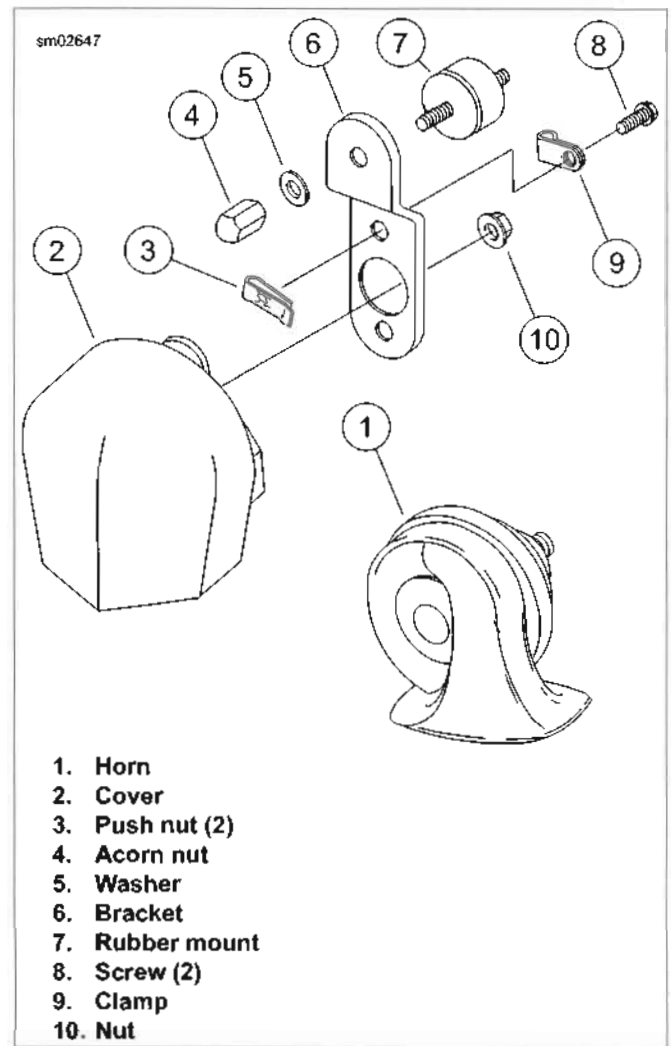

Figure 7-106. Horn: All But FXSB
1. See Figure 7-106. Remove acorn nut (4) and washer (5) to detach horn bracket (6) from vehicle.
3. Remove screws (8) and nut (10) to detach horn from bracket. Free wires from clamp (9).
- a. Secure with screws (8), and push nuts (3). Tighten screws to 35-55 **in-lbs** (4.0-6.2 Nm).
- b. Install nut (10) and tighten to 80-100 **in-lbs** (9.0-11.3 Nm). Fold wires under clamp (9).
6. Attach horn bracket to vehicle using washer (5) and acorn nut (4). Tighten nut to 80-100 **in-lbs** (9.0-11.3 Nm). When tightening fasteners, be sure the horn does not contact the horn cover or other parts.